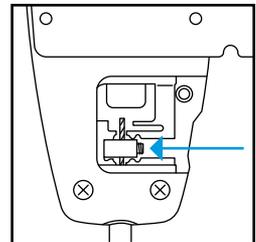

Figure 3
5. Use the hex screwdriver to loosen the cone point safety screw two to three turns and slide the cable end block off the inner cable (see Fig. 3).